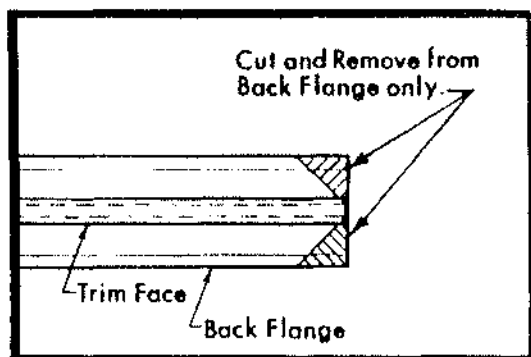

FIGURE 4 PREPARING GOLD TRIM
5. Ends of gold trim should be prepared for easier insertion to touch stove top in side and top trim panels. (See Figure 4)